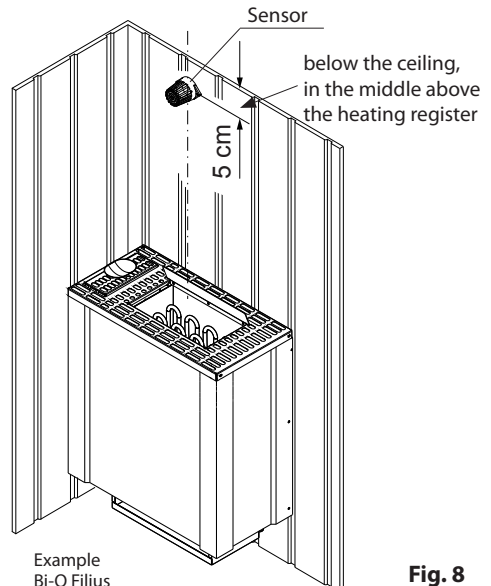

Fig. 8
In contrast to the information on sensor installation in the installation instructions for your sauna control unit, the sensor for this heater is mounted centrally above the heater on the cabin wall, 5 cm below the ceiling (Fig. 8)
- ▶ Install the sensor as shown in Figure 8.